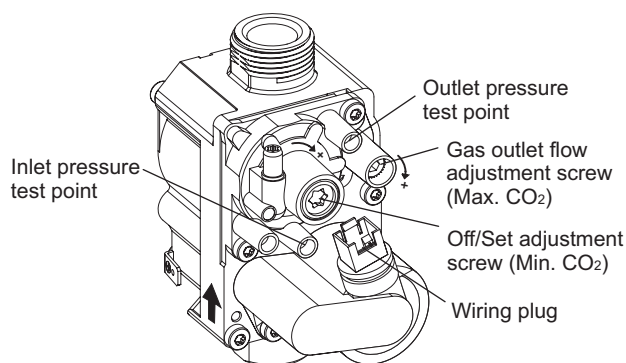
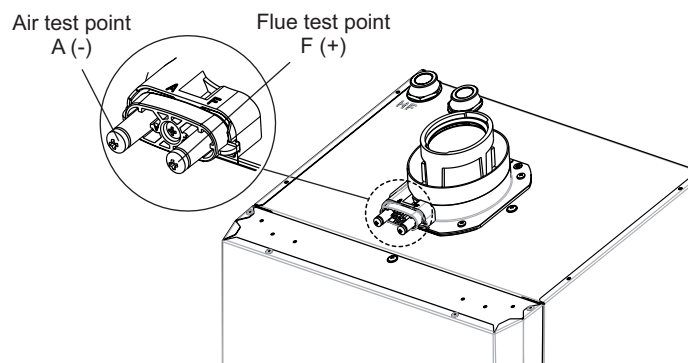

Fig. 6.2
Fig. 6.3
The air gas ratio of the boiler has been factory-set and should not require adjusting during commissioning. If adjustment is recommended or required the engineer must be competent to carry out this work. See Fig. 6.3 for analyser test point.
Refer to Section 6.6 and enter the chimney sweep mode use the CH control knob to set the output to minimum (0%). Insert the analyser probe into the flue test point (Fig. 6.3) and check that the CO2 value is as specified in Section 3.1, otherwise adjust the screw (Fig. 6.2) To increase the CO2 value, turn the adjustment screw in a clockwise direction and vice versa to decrease.
When you finish the minimum CO2 adjustment, while maintaining the chimney sweep function active, use the CH control knob to set the output to maximum (99%). Insert the analyser probe into the flue test point (Fig. 6.3) and check that the CO2 value is as specified in Section 3.1, otherwise adjust the screw (Fig. 6.2). To increase the CO2 value, turn the adjustment screw (Fig. 6.2) in a clockwise direction and vice versa to decrease it.
Connect the flue gas analyser to the flue gas sampling point as shown in Fig. 6.3.
**Notes:** 1. Prior to servicing, it is recommended that a flue gas analyser is used to measure the performance of the boiler (refer to Fig. 6.3 for the position of the flue sampling point). Refer to Section 6.6 Checking combustion. If the CO/CO2 ratio measured is greater than 0.004 **or** when other checks or comments from the customer have indicated that there may be problems, check the following: